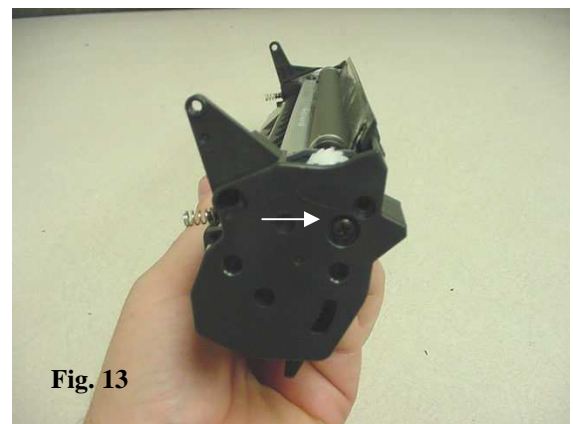

Fig. 13
10. Remove one screw from the end cap on the gear end side of the toner hopper (Fig. 13).